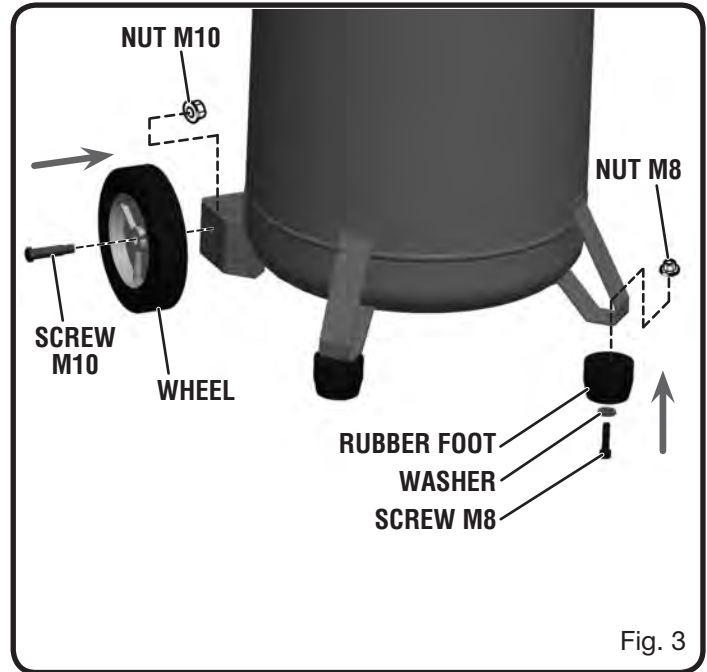

Fig. 3
See Figure 3.
- Mount the rubber feet as shown in figure 3. Tighten firmly with an open-end wrench (not included) to secure it in position.
- Screw M8 (2)
- Washer (2)
- Rubber Foot (2)
- Nut M8 (2)
- Mount the wheels as shown in figure 3. Tighten firmly with an open-end wrench (not included) to secure the wheels in position.